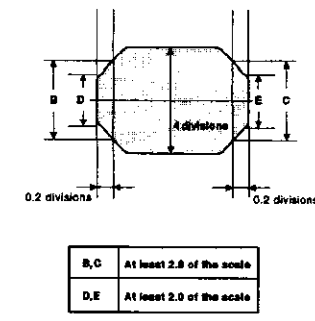

Fig. 3-2-5
- 4 Adjust tracking so that the peak value of the FM waveform is 4 divisions. Check if the FM waveforms B, C, D and E are within the specified values shown in Fig. 3-2-5.
- 5 If the waveform is not within the specified value, repeat the procedure in item 3-2 "Check and adjustment of the FM Envelope" from the beginning.